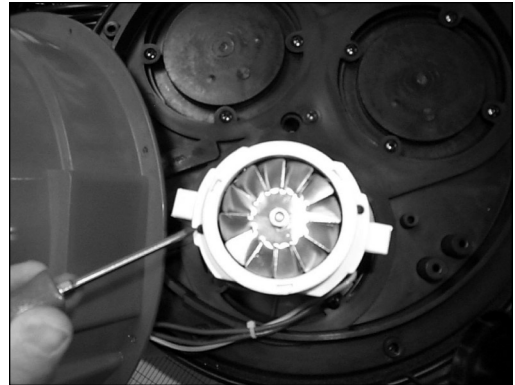

Fig. 1
3. Remove the motor cover by removing two screws. See Figure 1